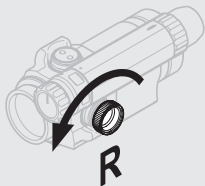
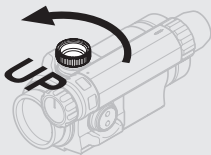

Fig. 3 Windage adjustments
Fig. 4 Elevation adjustments
- d** The adjustment caps (6) or the tool (13 A) must be used to turn the adjustment screws (7) and (8). Place the knobs on any of the adjustment caps into the recesses on the adjustment screws (7) and (8).
- e** Windage adjustments (see Fig. 3):
- Turn windage adjustment screw (7) counterclockwise to move point of impact to the right.
- Turn windage screw (7) clockwise to move point of impact to the left.
- f** Elevation adjustments (see Fig. 4):
- Turn elevation adjustment screw (8) counterclockwise to move point of impact up.
- Turn elevation adjustment screw (8) clockwise to move point of impact down.